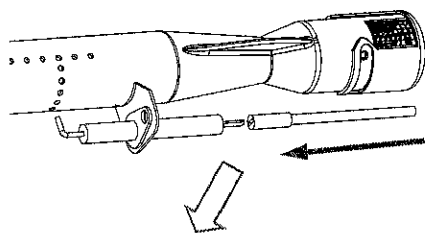

Fig. 9A
*Locate:* (3) Burner Tubes with Igniter electrodes attached and (3) ST 4.0x10 Screws.
*Procedure:* Attached to each Burner Tube is an Ignition Electrode with a pin at the end of the Electrode. You need to attach each of the (3) ignition wires that you had pushed through the openings onto the pin end of the Electrode per Fig. 9A.